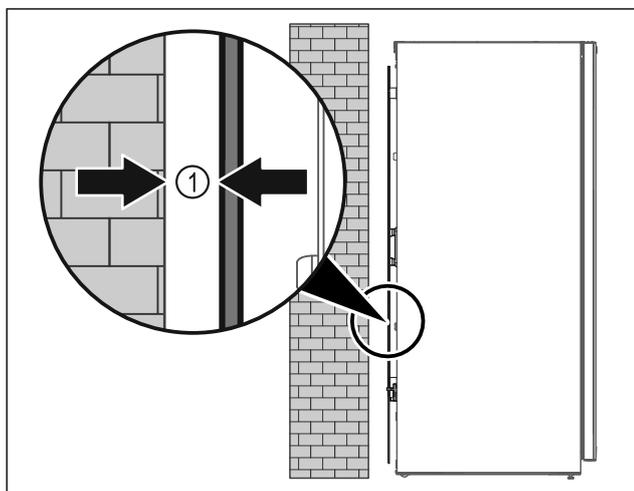

Fig. 10
- ▶ Set up the appliance either free-standing or directly against a wall at a minimum distance of 5 mm Fig. 10 (1).